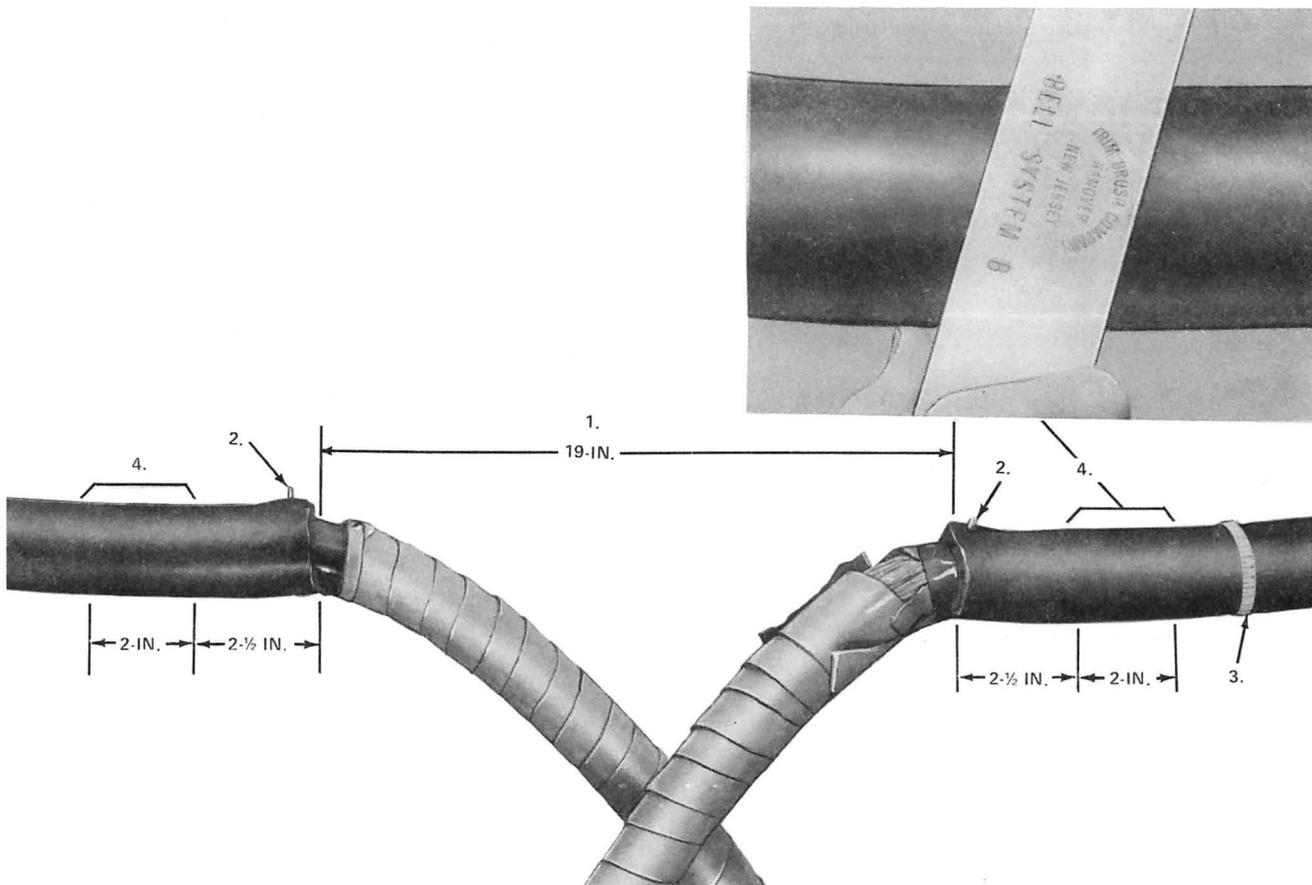

Fig. 7—Preparation of Cable Sheath
3.02 Prepare the cable sheaths and install 50-type closure as outlined in Fig. 7 through 17.
5. Place a sealing washer (selected in Fig. 7) on each side of layer of B sealing tape, then build up collar on cable sheath to a diameter equal to or slightly larger than that of the washer. The tape should be kept as clean as possible and should not be stretched.